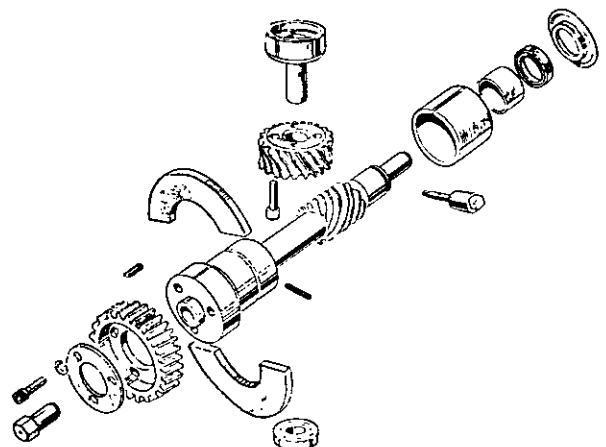

Fig. J.12. Exploded View of Auxiliary Drive Assembly (Early).
6. Remove the sump and oil pump (Page K.2) and tap the fuel pump drive shaft up out of the crankcase. Remove any shims that may be present at the bottom of the bearing recess. An exploded view of the fuel pump drive assembly is shown in Figs. J.12 and J.13.